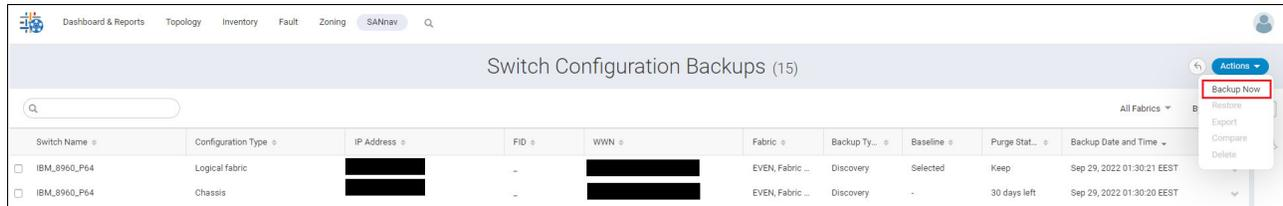

Figure 5-16 Backup Now
1. Click **SANnav** in the navigation bar, and then select **Services** → **Switch Configuration Backups**. The Switch Configurations Backups window opens, as shown in Figure 5-16.